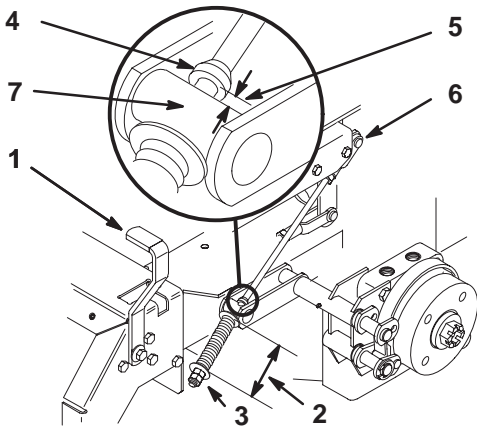

Figure 60
2. Measure the length of the spring. Measurement should be 2.75" (70 mm) between washers (Fig. 60).
3. If adjustment is necessary, loosen the jam nut below the spring and tighten the nut directly below the yoke (Fig. 60). Turn the nut until the correct measurement is obtained. Tighten the two nuts together and repeat on opposite side of unit.
6. Measure the distance between the trunion roller and the collar on brake rod . Measurement should be 3/16"-1/4" (5-7 mm) (Fig. 60).
7. If adjustment is necessary, loosen the jam nut directly below the yoke. Turn the bottom adjusting nuts until the correct measurement is obtained (Fig. 60). Tighten jam nut at yoke.